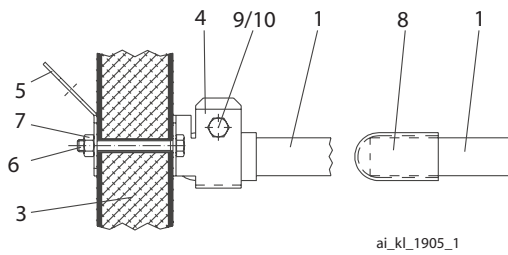
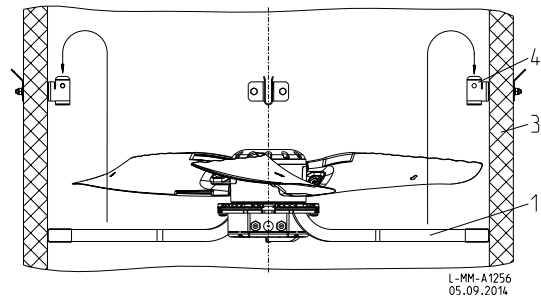

figure 2
figure 3
Tighten the mounting bracket (4) and the support bracket (5) **fig. 2** with screws (6) only so far that the mounting bracket and support bracket do not dig into the chimney wall (3). Self-locking nuts (7) are used for securing the screws. The enclosed protective caps (8) are to be pushed onto the ends of the fan supports (1), **fig. 2**.
Feed the fan (1) into the chimney in accordance with **fig. 3**, and center it in the mounting bracket (4). In addition, the support is to be secured in accordance with **fig. 2** by using bolts (9/10). The four support clamps (5) are used as support eyelets for additional fixings (e.g. by standing ropes) in order to relieve the chimney of the weight of greater fans.